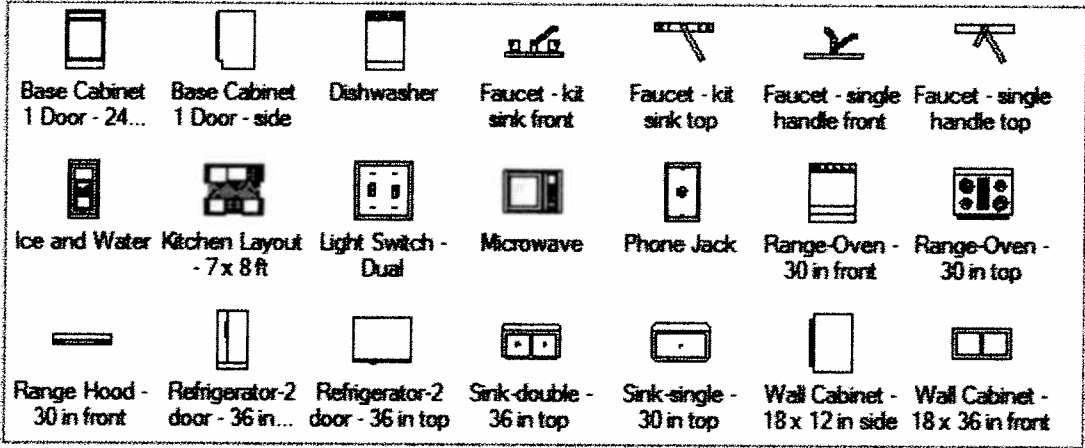

Figure 6-16d
- Choose the *Blocks* option by double clicking on it. Figure 6-16d displays the available blocks under the *Kitchen.dwg* file.
- The microwave’s block of Figure 6-16d does not contain any dimension. Therefore, the first step is to find out the block dimension.